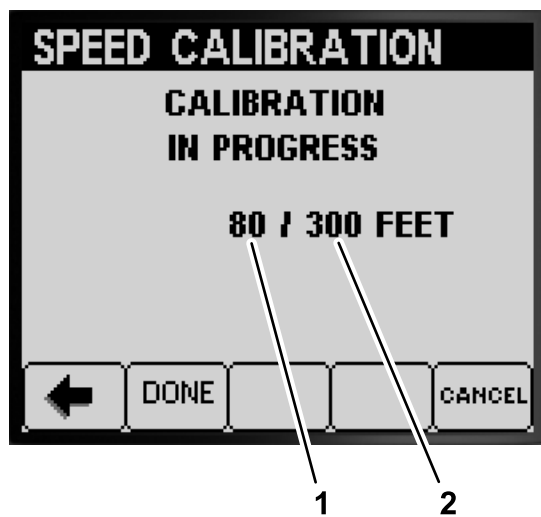

Figure 67
4. Press button 2 (DONE) when the front tire of the machine is on the finish line (Figure 67).